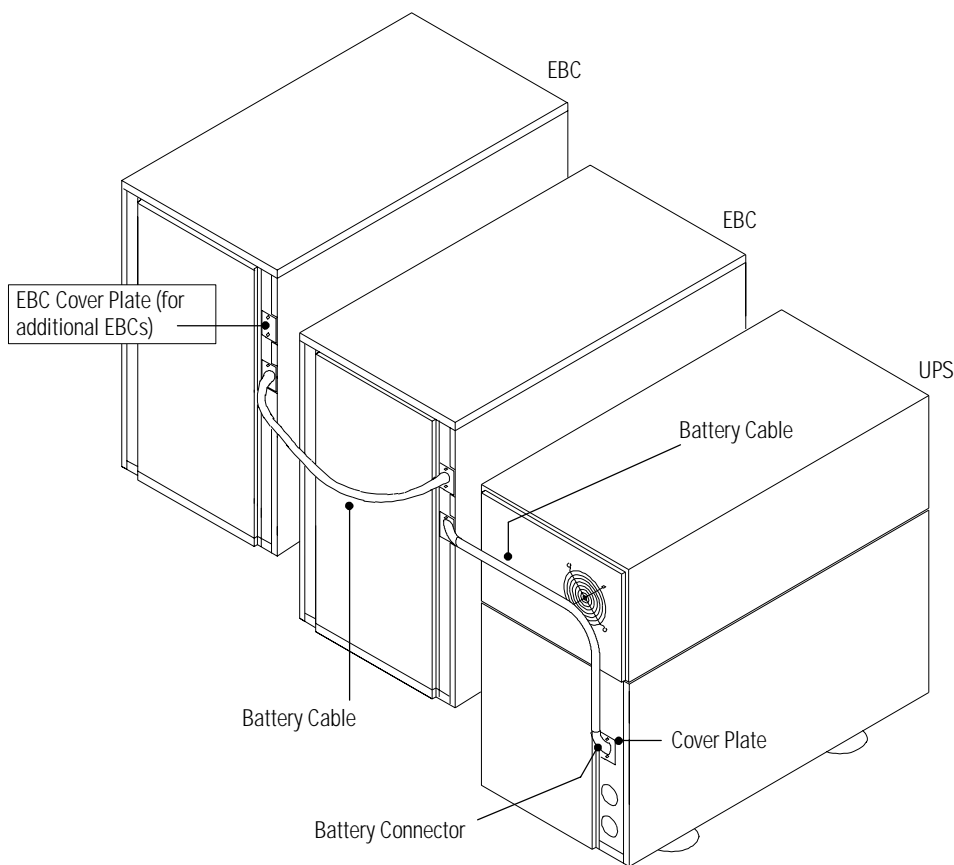

Figure 13. Connecting the EBC
6. Remove the cover plate on the rear of the UPS cabinet (see Figure 13). Pull the battery connector out of the UPS, cut the tie-wrap, and discard the cover plate.